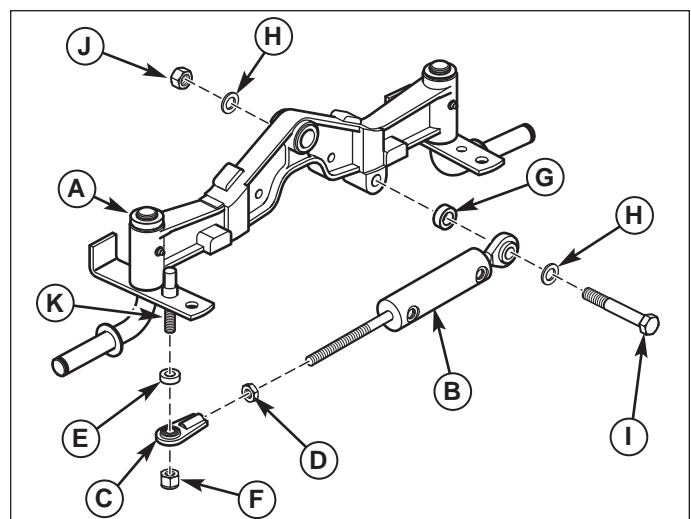

Figure 6 Steering Cylinder Installation
- Thread 1/2-20 jam nut (D, Figure 6) onto steering cylinder (B). Then attach ball joint (C) to steering cylinder (B).
- Attach spacer (E), ball joint (C), and 1/2-13 lock nut (F) to mount (K) on axle as shown.
- Attach steering cylinder (B) to axle (A) using a M16 x 110mm capscrew (I), two 5/8 flat washers (H), a spacer (G), and M16 lock nut (J) as shown.
- Tighten lock nut (J) to 150 ft. lbs (203.4 Nm).
- Tighten lock nut (F) to 48 ft. lbs (60.3 Nm).